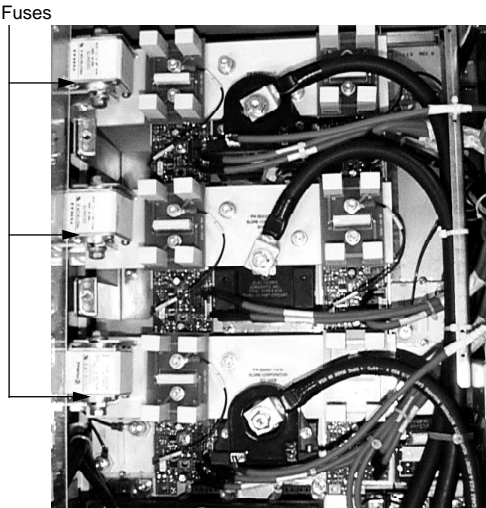

Figure 4.2.30: DC Bus Fuses
4. Remove the DC bus fuse (Figure 4.2.30) by loosening two screws and lifting the fuse off of its bracket.
5. Place the new DC bus fuse on its mounting bracket (see Figure 4.2.30 on page 4.2.56) and secure with two mounting screws and washers. Torque the screws to 148 lb-in (16.7 N•m).